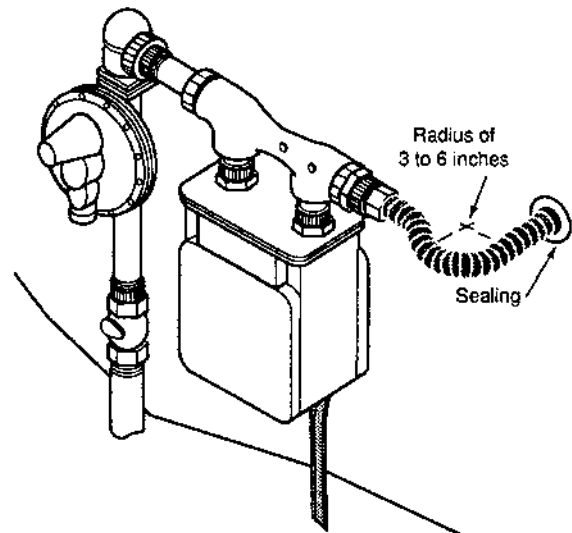

Figure 4-25
2. Meters which are independently supported with a bracket can be directly connected outdoors with **TracPipe® CounterStrike®** Figure: 4-25. If practical, direct connections shall include a 3 to 6 inch additional length of tubing to accommodate differential settling and meter movement. No mechanical protection of the tubing is required for outdoor connections. **NOTICE:** Prior to installing **TracPipe® CounterStrike®** directly to a meter, ensure that the local utility allows this practice and meter is independently supported as some utilities have regulations specifying meter attachments. Any exposed sections of stainless steel piping must be wrapped with a self-bonding silicone tape. This is especially important with masonry construction. Figure: 4-23. A sleeve is required for **TracPipe® CounterStrike®** penetrations of masonry construction and recommended for wood frame construction.